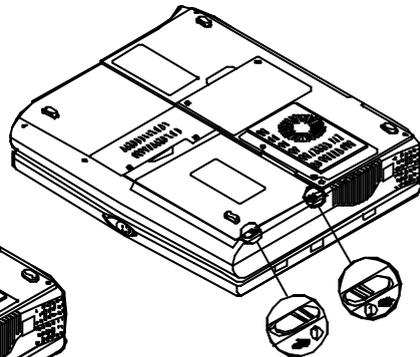

Figure 1-5
5. Press the two latches in the direction indicated to release the battery pack. (Figure 1-5)